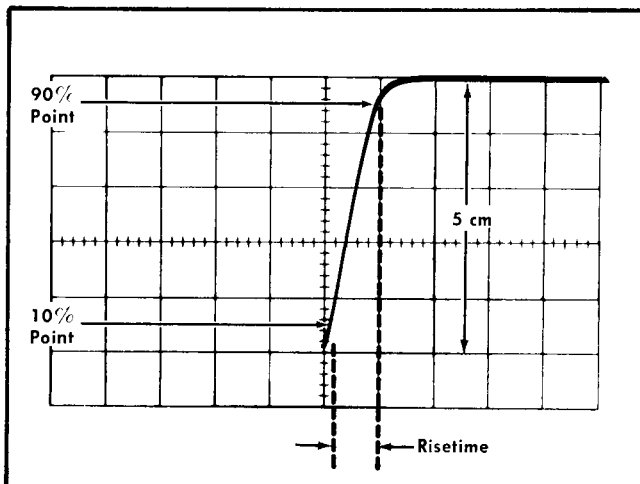

Fig. 5-2. Measuring calibrator risetime.
e. CHECK—Risetime (see Fig. 5-2), equal to or less than $1 \mu\text{s}$.